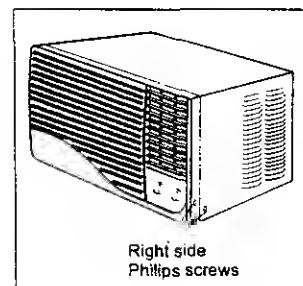

Fig 5
- A Remove the (2) Philips screws on each side of the cabinet. The set of screws closest to the front of the unit, secure the front panel to the cabinet. The set of screws closest to the rear of the unit, secure the cabinet to the chassis. See (Fig 5)